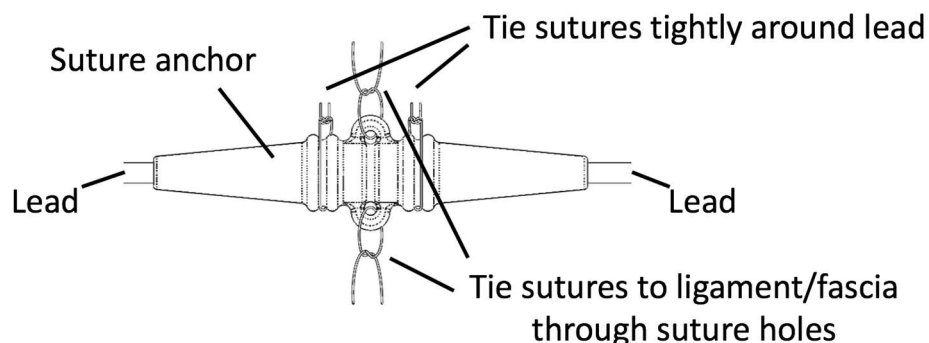

Figure 5.7: Securing the suture anchor.
2. Ensure the suture is tied tightly to minimize lead movement in the anchor (refer to Figure 5.7).